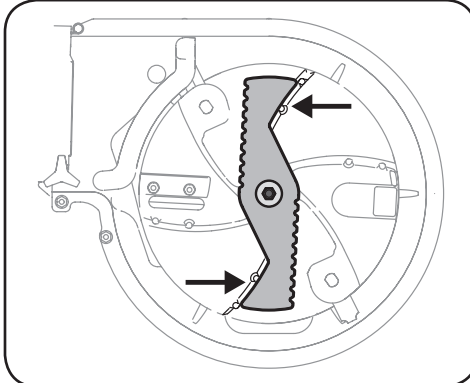

Figure 5-17
9. Install a replacement blade (Part No. 742-05239) with the hardware removed earlier. See Figure 5-17.